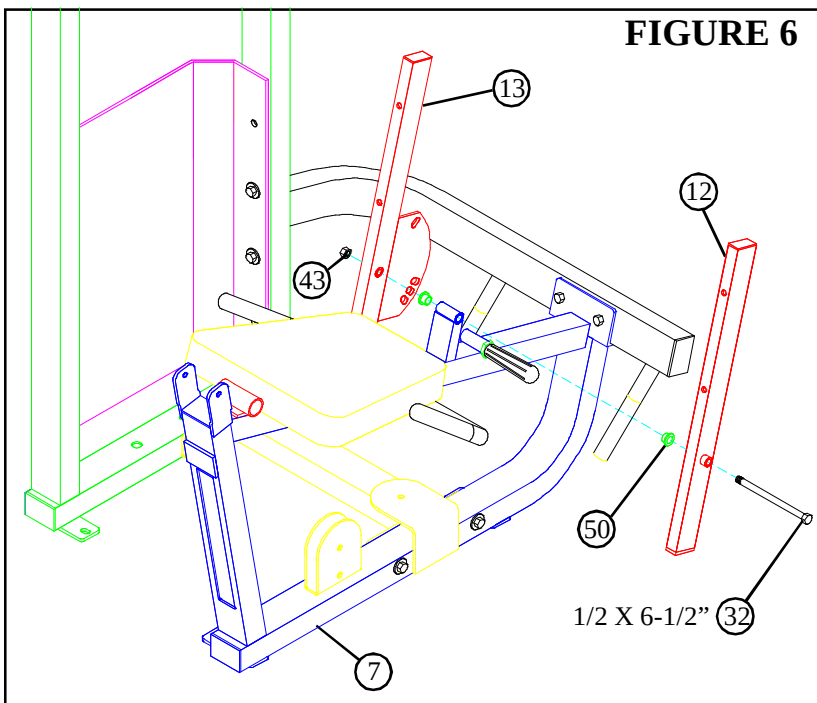

FIGURE 6
- Assemble RIGHT (12) & LEFT (13) PAD SUPPORTS to the BENCH FRAME (7) using one 1/2 X 6-1/2" BOLT (32), two 1/2" FLANGE BEARINGS (50), and one 1/2" LOCK NUT (43) as shown in FIGURE 6. **(NOTE: Securely tighten, then back nut off 1/4 turn to allow the two parts to rotate freely.)**